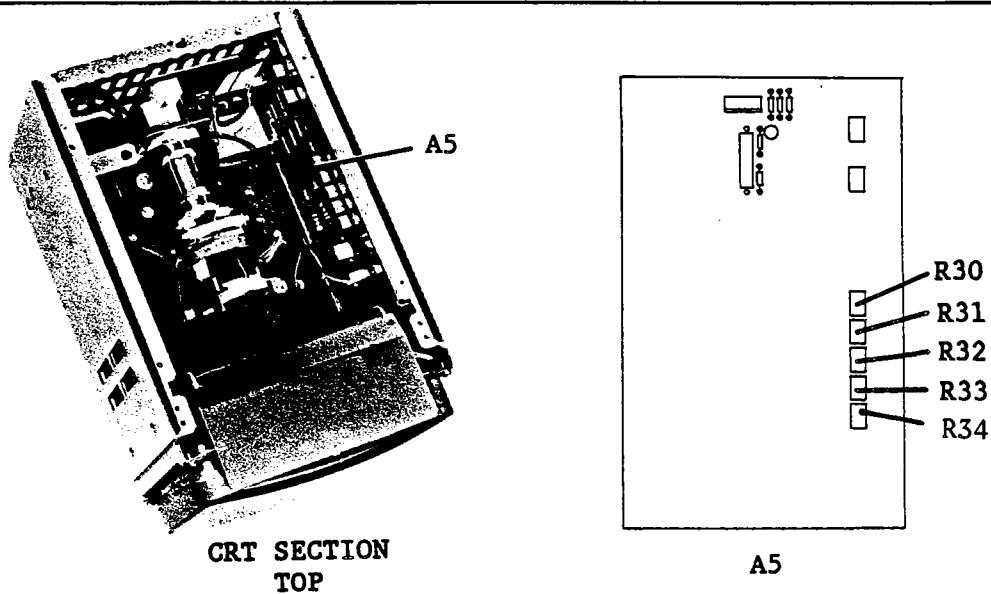

Figure 3-24. White Balance Adjustment Locations
1. Turn A5R34 (INT-LIM) fully counter clockwise (CCW) and turn the INTENSITY control fully clockwise (CW). See Figure 3-24 for A5R34 location.